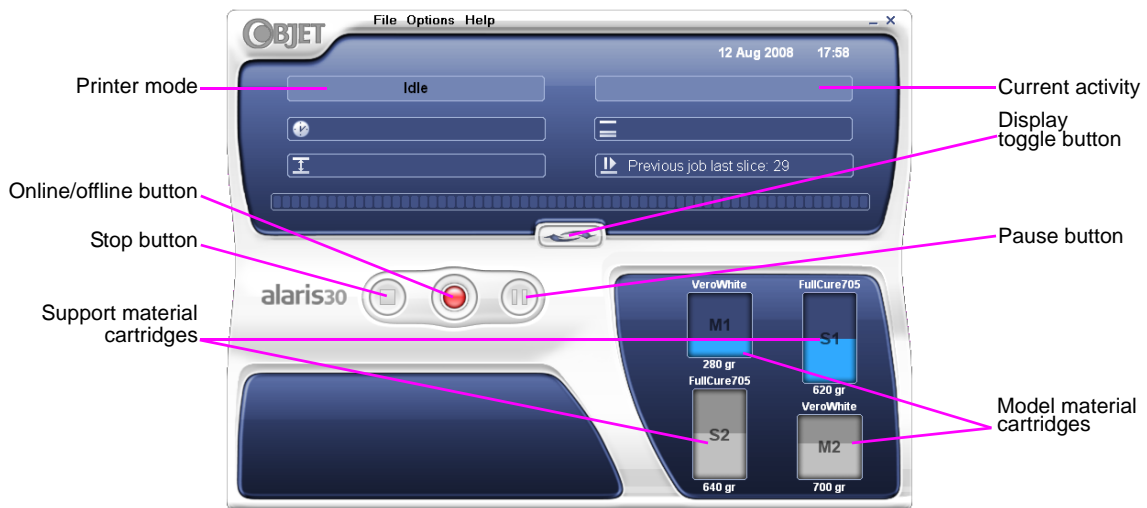

Figure 7-3: Alaris30 interface
The Alaris printer interface screen opens (see figure 7-3). All monitoring and controlling of the Alaris printer is done from this interface.
The Alaris30 printers use two cartridges of model material and two cartridges of support material, each weighing one kilogram when full. A graphical representation of the cartridges and their current weight appears in the printer interface (see figure 7-3).
4. Check the Alaris printer interface to make sure that the new cartridge is detected and that its weight is displayed (see figure 7-3).
2. Make sure that there is sufficient model and support material loaded in the printer, as indicated in the Alaris printer interface (see figure 7-3). You may want to replace the cartridges of model and support material currently loaded in the printer to avoid the need for replacing them during printing.
1. Switch the printer to online mode by clicking the red button at the bottom of the Alaris printer interface (see figure 7-3 on page 3).
Note: The printer mode is indicated in the green field on the left of the interface (see figures 7-3, 7-7 and 7-8 on pages 3, 6 and 8).